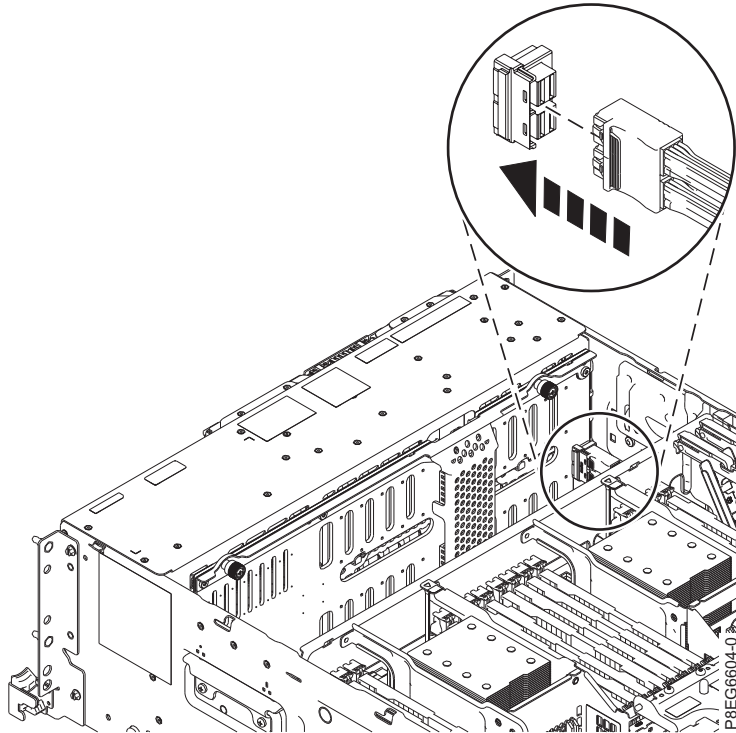

Figure 8. Reconnecting the SAS cables
7. Reconnect the front SAS cables to the connector port on the disk drive backplane, as shown in Figure 8 on page 9. Push the connector in until the connector latch clicks.